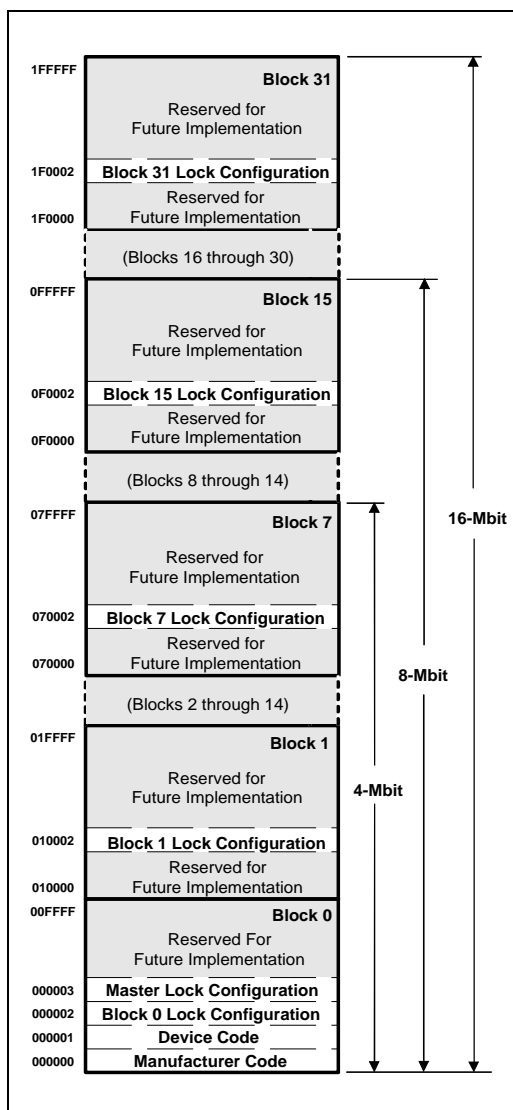

Figure 5. Device Identifier Code Memory Map
The read identifier codes operation outputs the manufacturer code, device code, block lock configuration codes for each block, and master lock configuration code (see Figure 5). Using the manufacturer and device codes, the system software can automatically match the device with its proper algorithms. The block lock and master lock configuration codes identify locked and unlocked blocks and master lock-bit setting.
IA = Identifier Code Address: see Figure 5.
The identifier code operation is initiated by writing the Read Identifier Codes command. Following the command write, read cycles from addresses shown in Figure 5 retrieve the manufacturer, device, block lock configuration and master lock configuration codes (see Table 4 for identifier code values). To terminate the operation, write another valid command. Like the Read Array command, the Read Identifier Codes command functions independently of the  $V_{PP}$  voltage and  $RP\#$  can be  $V_{IH}$  or  $V_{HH}$ . Following the Read Identifier Codes command, the subsequent information can be read.
1. X selects the specific block lock configuration code to be read. See Figure 5 for the *Device Identifier Code Memory Map*.